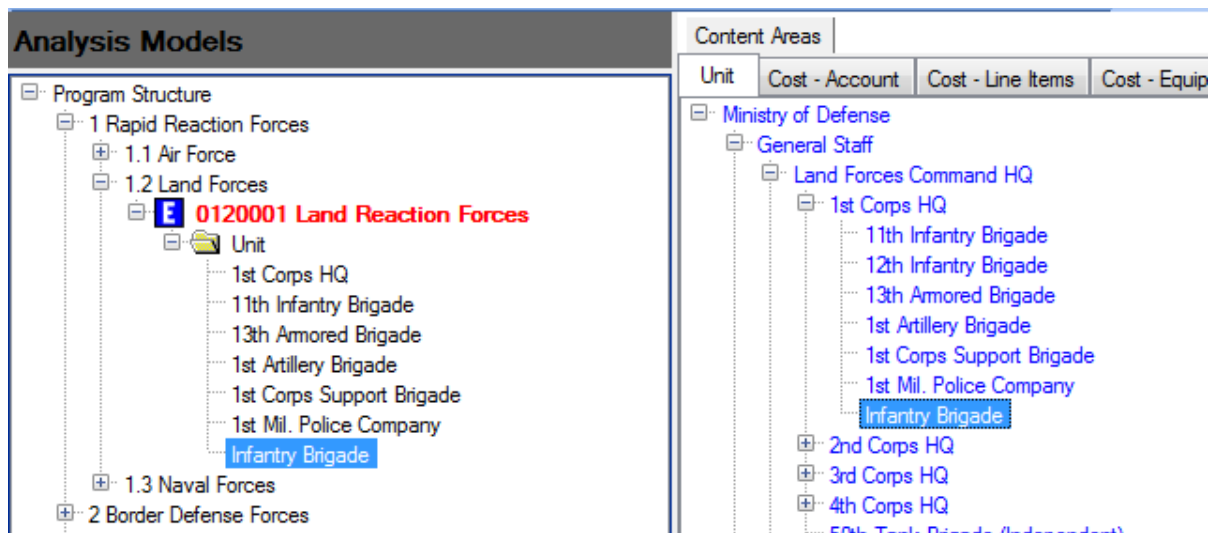

Figure 6-49. Changes Displayed after Unit Assignment
- After selecting **Assign Selected Items**, the category structure looks like that shown in Figure 6-49, and all of the Unit names change to blue text on the Unit tree in the right pane. Notice that only those Units not already assigned were selected and are now assigned to the desired category.